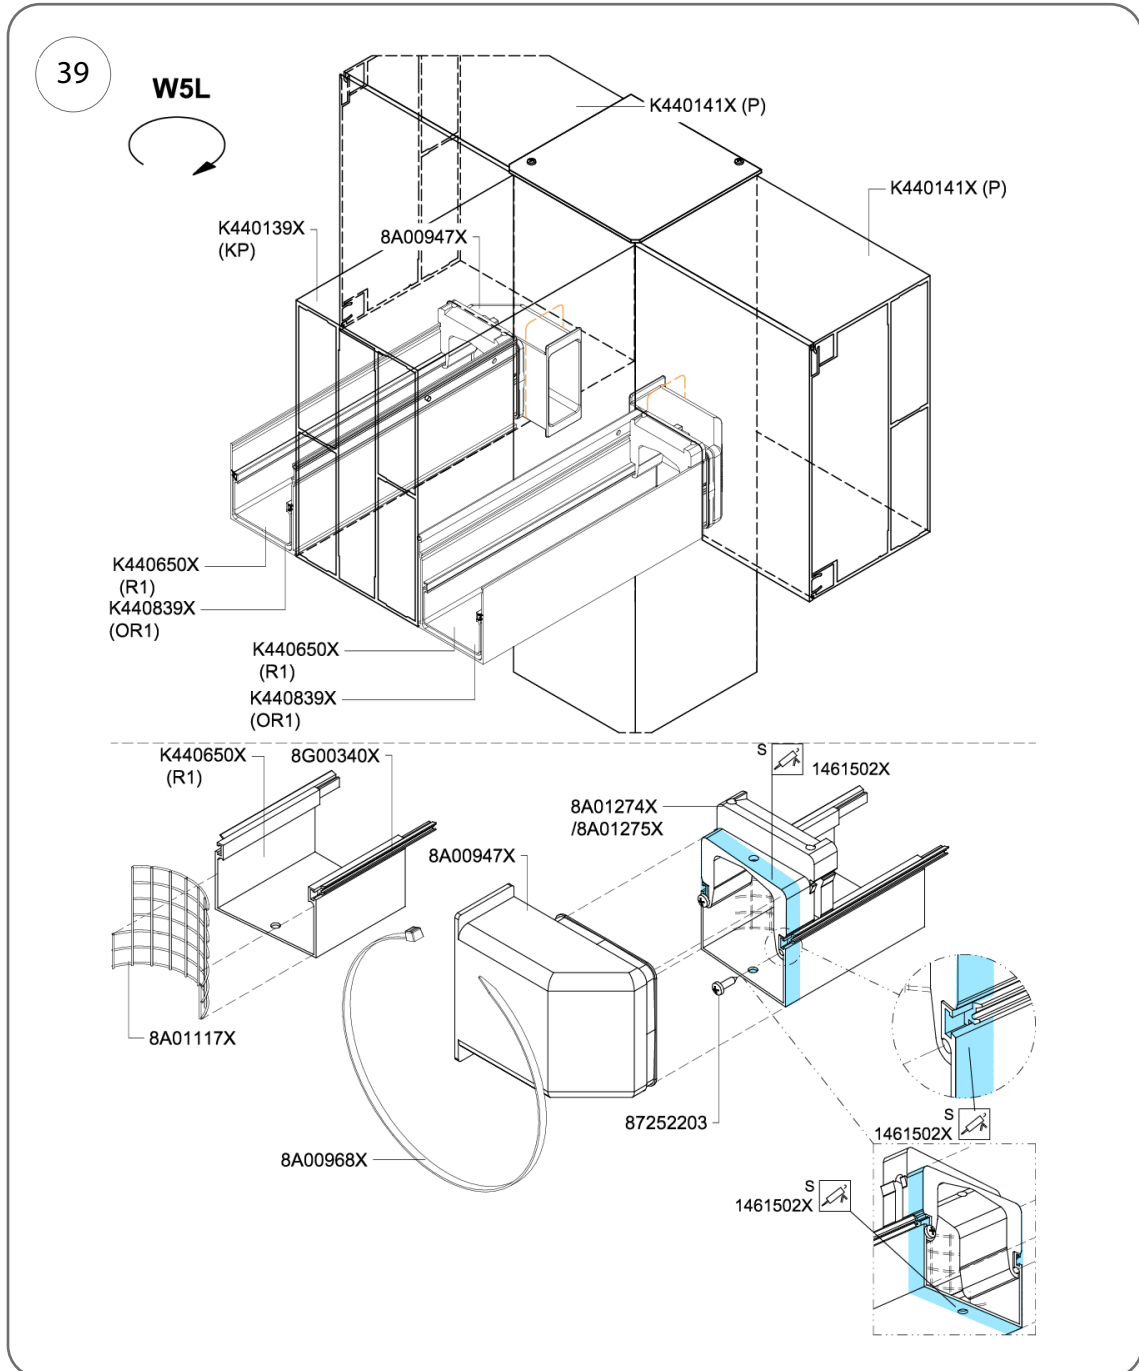

Fig. 39
2. Secure the snap-fit elements to prevent them from shifting by inserting 2 screws, $\varnothing 3.5 \times 13$ mm (cat. no. 87252203) – Fig. 39.
3. Apply a layer of adhesive and sealing compound (cat. no. 1461502X) around the entire perimeter of the gutter and the snap-fit element, as shown in Fig. 39.
2. Insert the slat shaft at an angle into sleeve 8A01084X (Fig. 39).